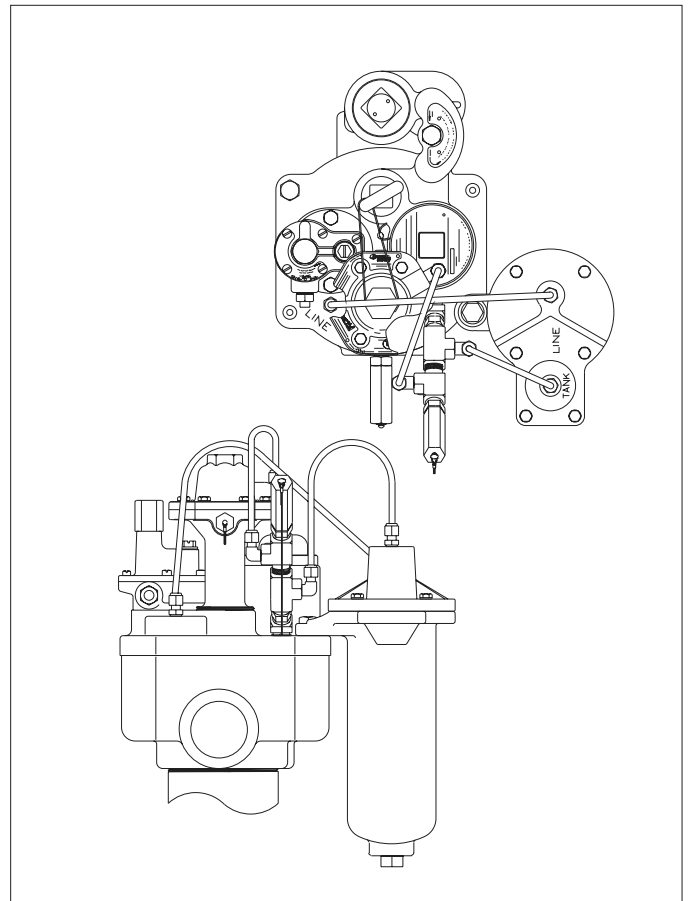

Figure 4
ing of the previously installed female tee. Install second female tee on second hex nipple. Apply U.L. classified non-toxic pipe thread sealant to the threads on two 90-degree elbows. Install elbows into sides of the female tees. Apply U.L. classified non-toxic pipe thread sealant to the 1/4-inch NPT threads of one Snap Tap and install into remaining opening of second female tee, see figure 4.
Apply U.L. classified non-toxic pipe thread sealant to the 1/4-inch NPT threads on street tee. Install street tee into top opening of the female tee. Apply U.L. classified non-toxic pipe thread sealant to the threads on two 90-degree elbows. Install elbows into sides of the female tee and the street tee. Apply U.L. classified non-toxic pipe- thread sealant to the 1/4 NPT threads of one Snap Tap and install into remaining opening of street tee, see figure 4.
- If using in conjunction with a FX2V or FX2DV leak detector, install tubing as shown in figure 4.